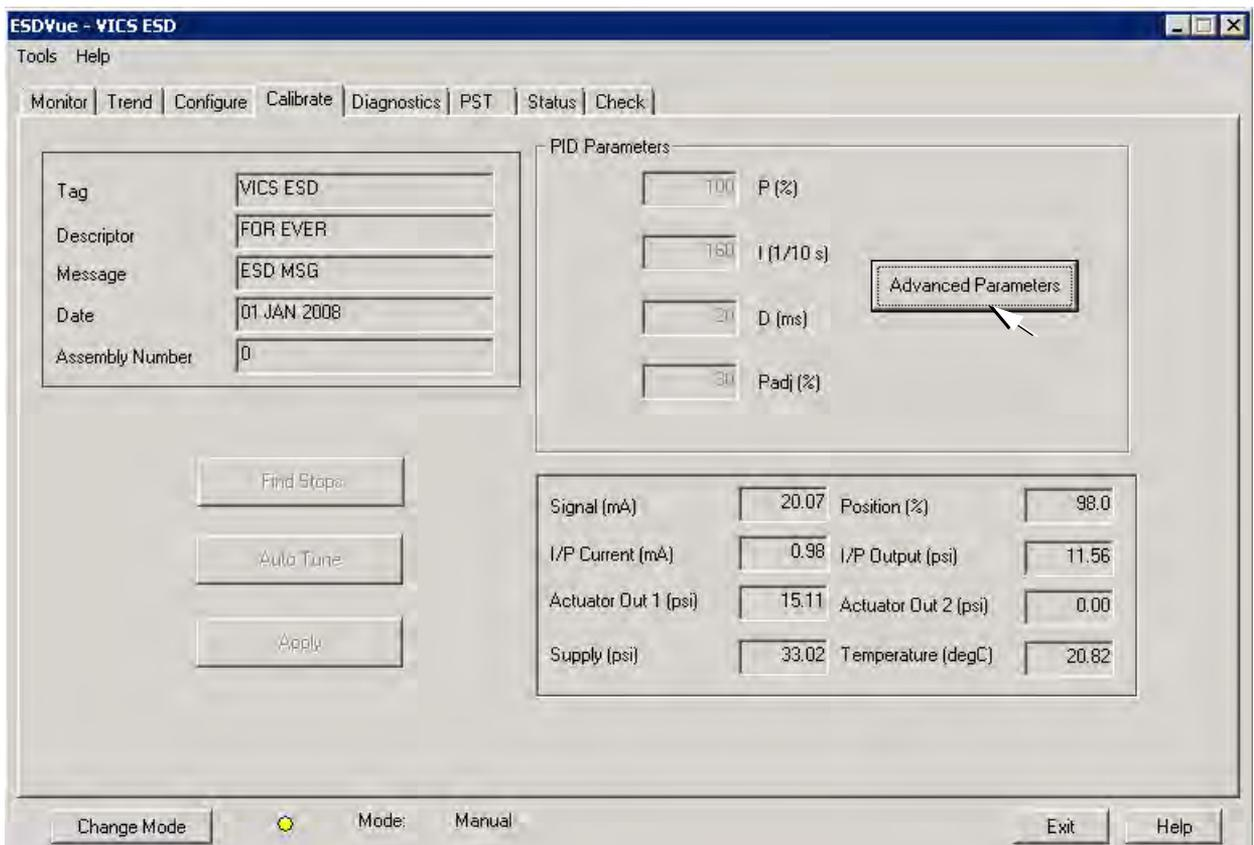

Figure 130 Starting Advanced Parameters
1. Click **Advanced Parameters** (Figure 130).